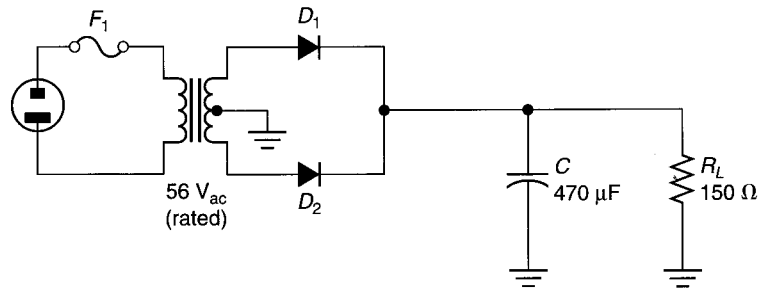

FIGURE 3.69
58. The rectifier diodes in Figure 3.69 must be replaced. Using Figure 2.25, determine which, if any, of the 1N4001–7 series diodes can be used as a replacement component in the circuit.